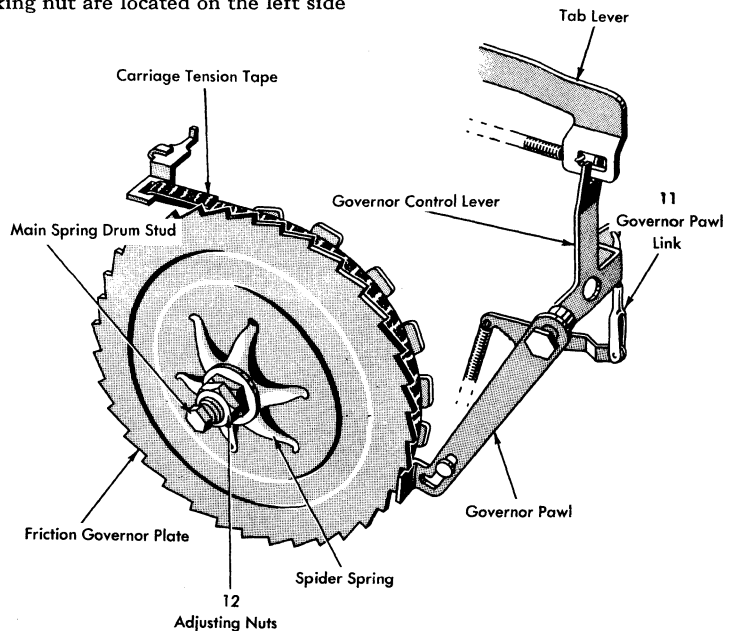

Figure 46. Tab Governor Adjustment
11. Adjust the tab governor pawl link so that the governor pawl engages the friction ratchet by the thickness of its own metal with the tab lever latched (Figure 46). Allow the carriage to move a short distance to fully extend the pawl before observing the engagement.
12. Adjust the friction governor pressure by the two locking nuts on the hub of the main spring drum until the speed of tabulation approximates the speed of carriage return (Figure 46). Observe this adjustment by clearing all tab stops except the last one on the right end of the rack and tabulating the complete carriage length. For centrifugal tab governor adjustments, refer to page 39.